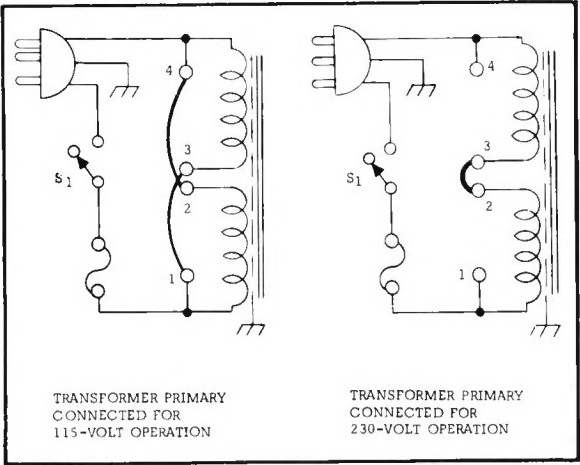

Figure 2-3. Input Power Transformer, Connections
2-17 Connections for 230 Volt Operation (Figure 2-3)
- b. Remove the jumpers between taps 4-2 and 3-1. Solder a jumper between taps 3-2 on the input power transformer T1, see Figure 2-3.